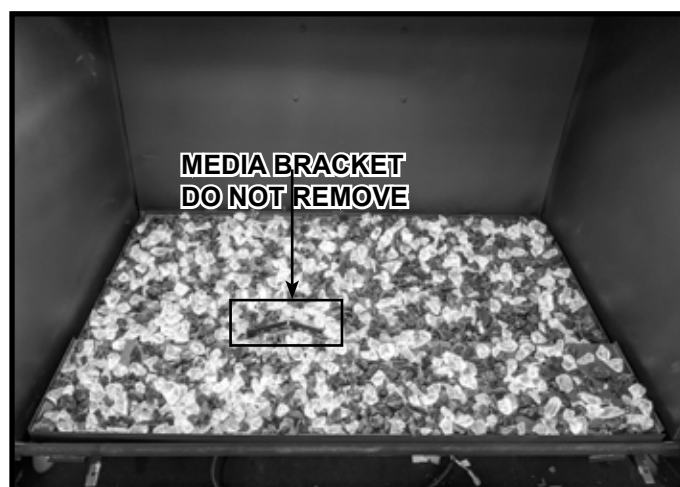
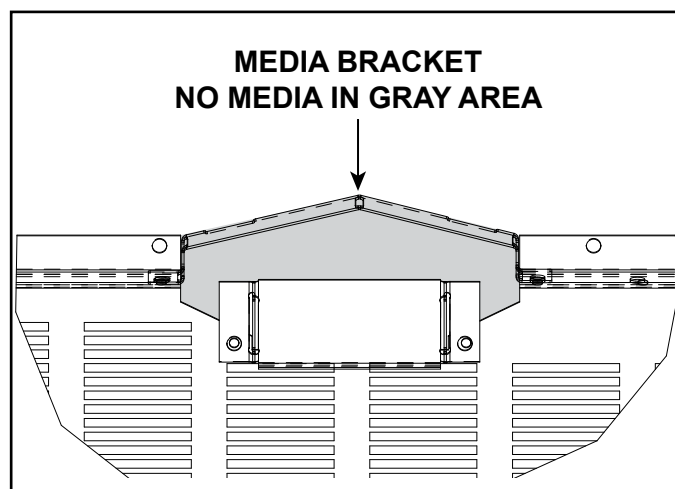

Figure 11.3 Placement of Glass Media
Figure 11.4 Media Bracket Location
2. Spread the media as shown in Figure 11.3. Do NOT remove media bracket. See Figure 11.4.